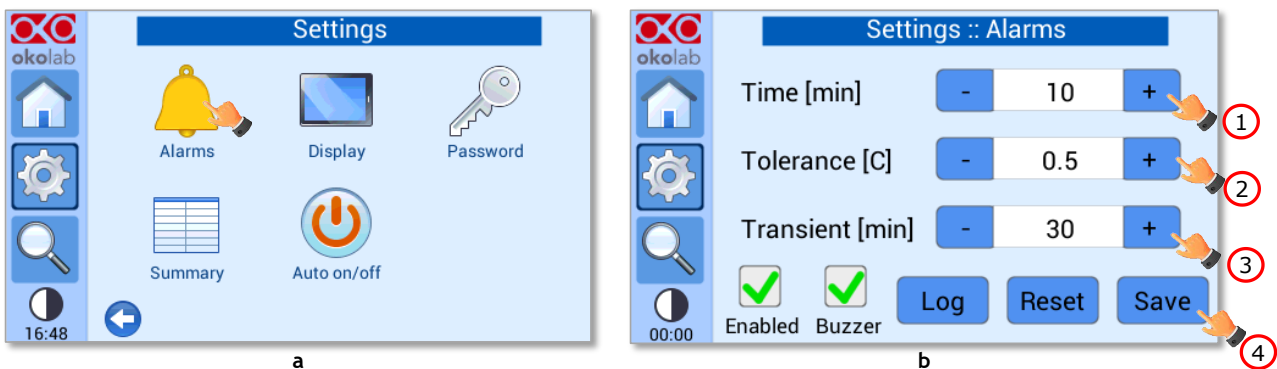

Figure 79. How to enter the Alarms menu (a -b).
To set the alarms specifications, press the *Alarms* icon  (see Figure 79 a), then follow the indications below:
1. Insert the alarm time; i.e. the time for which the temperature may remain outside the allowed tolerance before the controller triggers in alarm (see pointer 1 in Figure 79 b).
2. Insert the *Tolerance* value. This value defines the allowed tolerance from the set point (see pointer 2 in Figure 79 b).
3. Insert the transient time; i.e. the maximum time that the system can take to reach a new set point, without triggering the alarm (see pointer 3 in Figure 79 b).
4. Press *Save* to confirm (see pointer 3 in Figure 79 b).
Note ► For example, if the Tolerance from setpoint is 0.5 or greater (for a temperature setpoint of 37°C and the temperature reaches a value equal or less than 36.5°C or equal or more than 37.5°C) for a period of time equal or longer than 10 minutes (Time set in Figure 79 b) then the system triggers an Alarm.